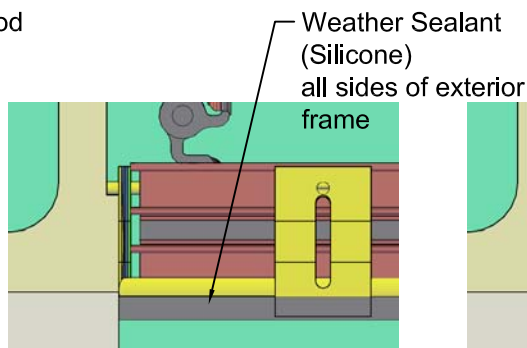
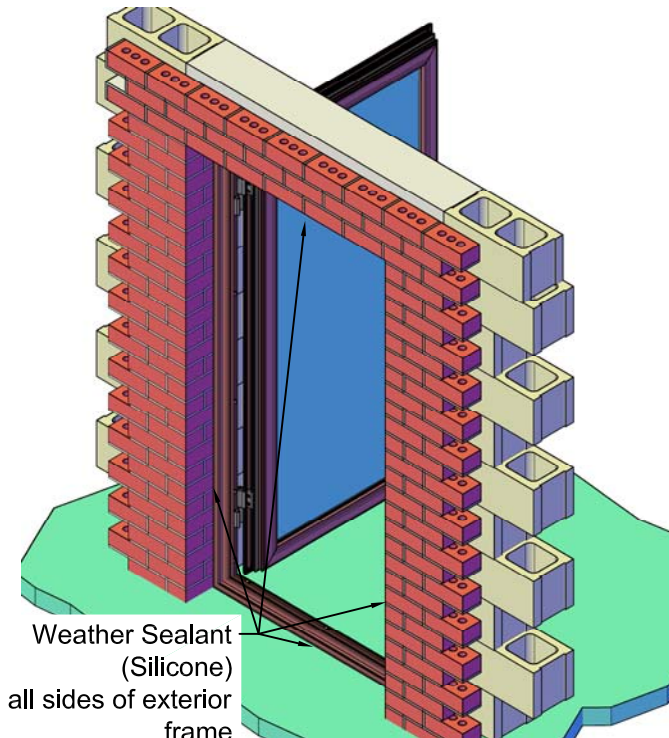

Fig. 12
Fig. 14 Viewed from Building Exterior
- Refer to sealant manufacturer's instructions. See Fig. 12 & Fig. 14